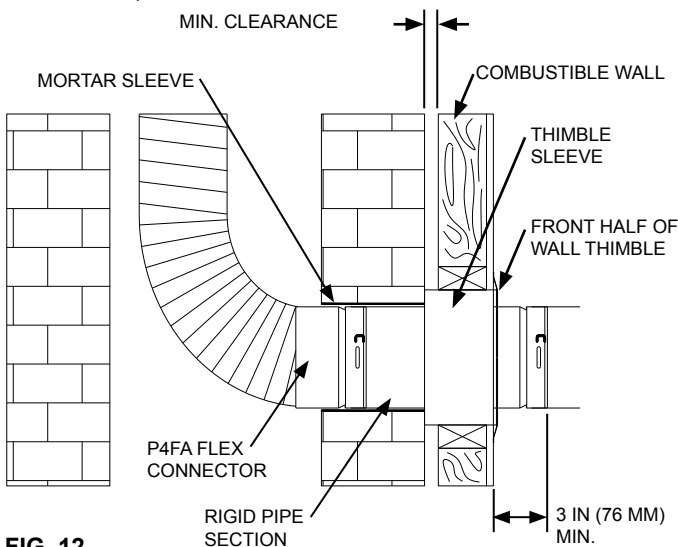

FIG. 12
Step 3: Insert liner into masonry chimney as described in these instructions. Attach the **P4FA** Flex Connector to the bottom end of liner and secure with three (3) #8 x 1/4" (M4 x 6 mm) sheet metal screws.
Step 4: After liner is installed, attach a section of rigid pipe to flex connector (**be sure flow arrow is pointed in correct direction**) and secure with twist lock (See FIG. 12).
Step 5: The thimble sleeve will need to extend through combustible wall and be flush with masonry. Pull the sleeve extension out to required length and secure extension to sleeve with screws. Slide wall thimble over rigid pipe and insert into combustible wall opening. Secure thimble to wall with fasteners. **Rigid pipe must extend out past combustible wall a minimum of 3 inches (76 mm) as shown in FIG. 12.**